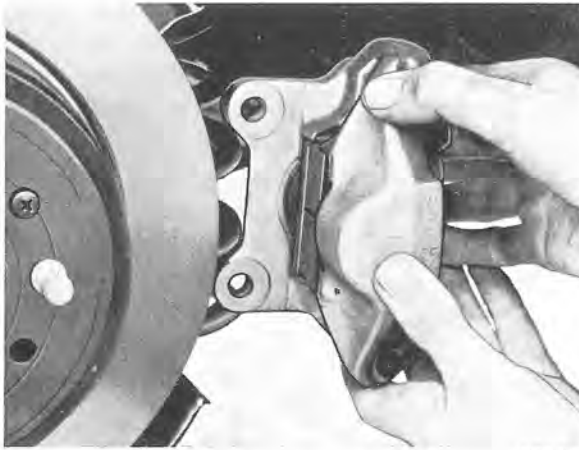

Fig. 5-26. Removing rear wheel brake caliper
3. Disconnect the brake line (4, Fig. 5-25) at the connection to the caliper and fit a protective cover on the brake line. Remove the attaching bolts (2 and 5, Fig. 5-25). Remove the brake caliper, see Fig. 5-26.